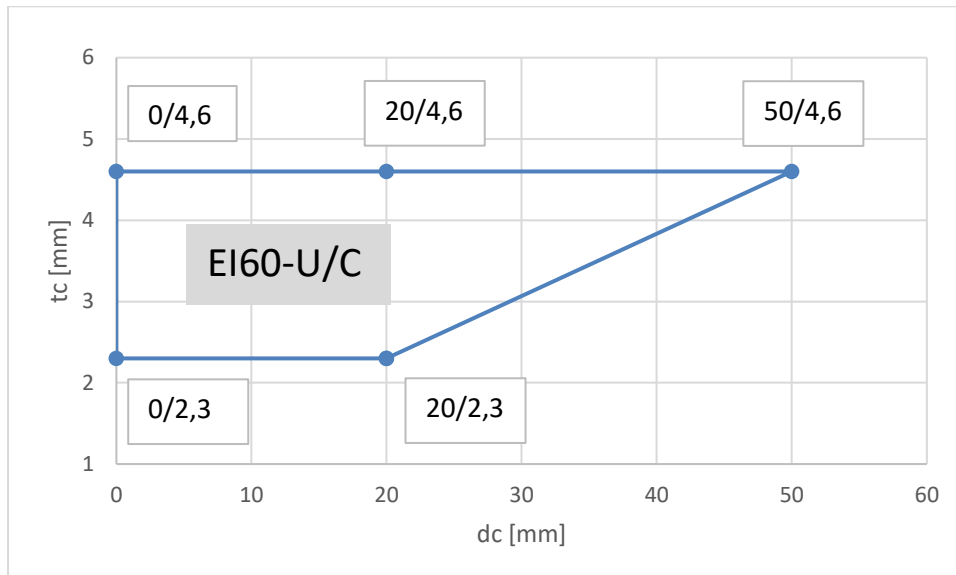

Figure 40: Classified pipe range of PP-RCT-pipes, sealed with CFS-IS
Classification shown in Figure 40 is valid for
- For dimension refer to Figure 40